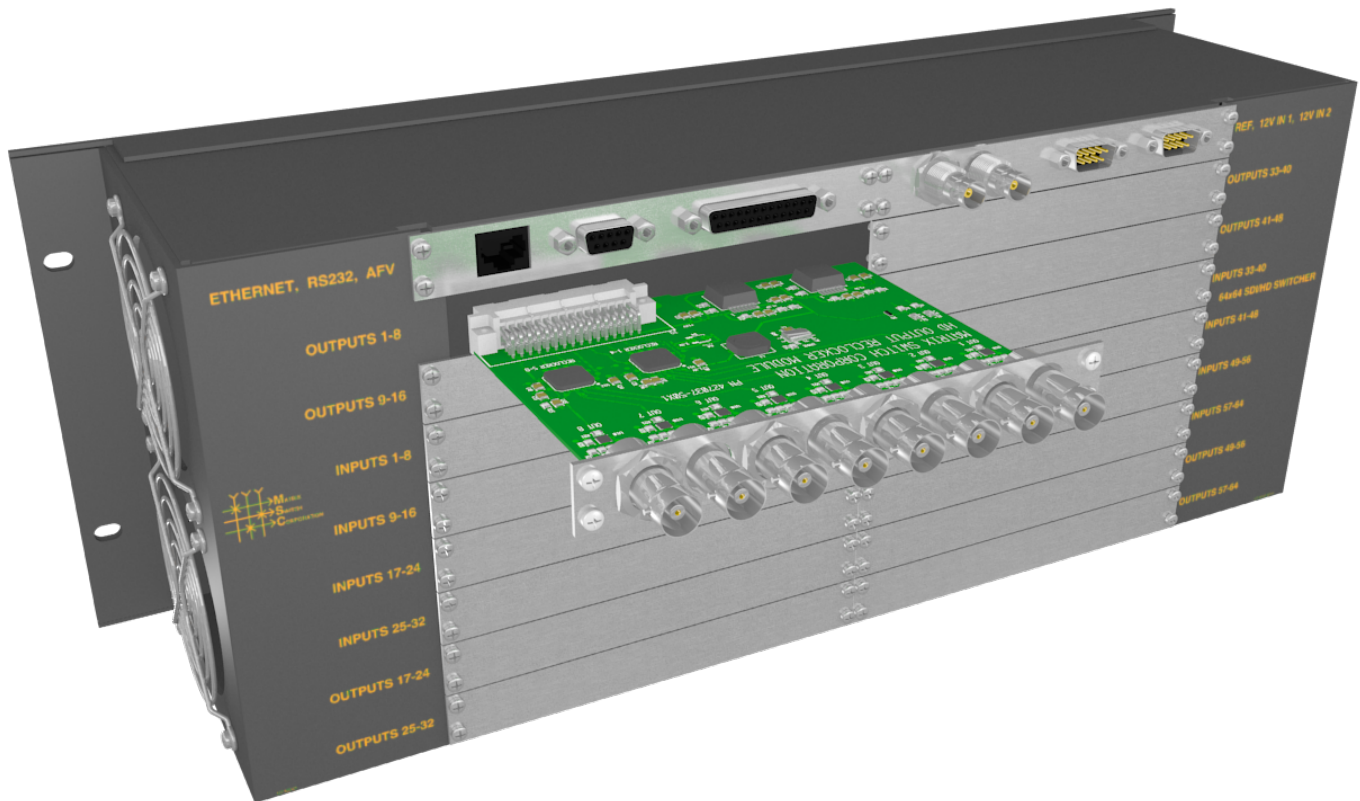

Figure 5: Video board installation example (MSC-XDM4000)
3. Ensuring the correct type of board is being used for a slot (Input or Output), position the board connector first (opposite side of the BNC connectors) and board main component side towards the top of the router, as depicted in Figure 5. Insert the card until it makes contact with the main crosspoint board backplane. The card may need to be tilted up or down until it mates correctly with the main board connector. It is important not to apply too much pressure when inserting the card, or damage may result if the connector is not mating correctly. The board metal mounting plate should be flush against the back of the router.